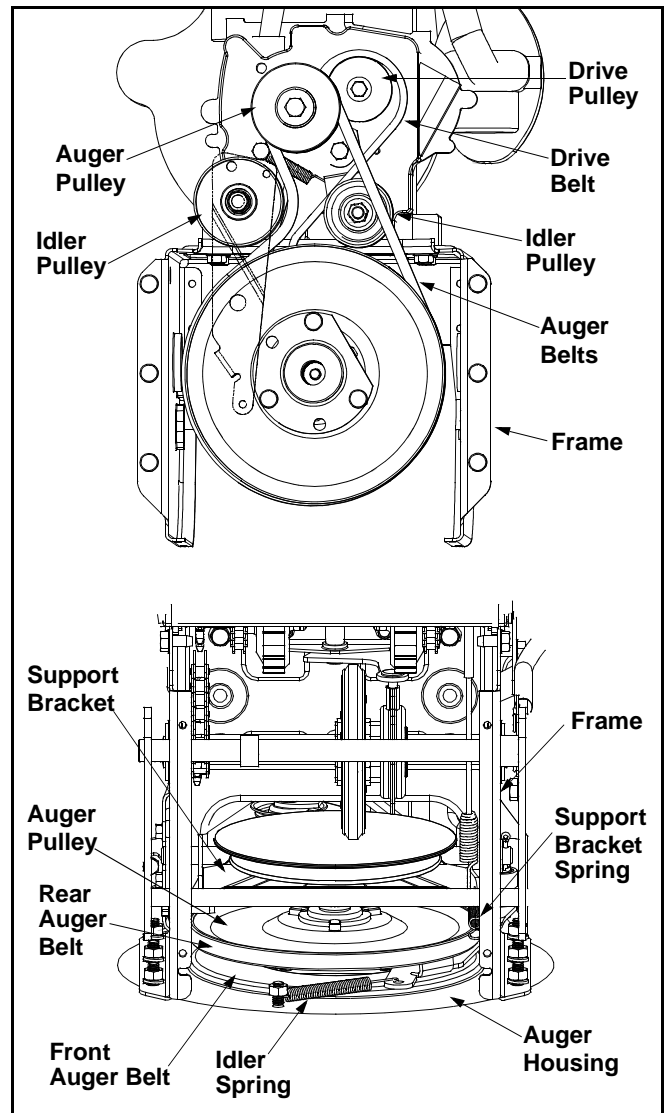

Figure 14
- Roll the front and rear auger belts off the engine pulley. See Figure 14.
- Unhook the idler spring from the hex bolt on the auger housing. See Figure 14.